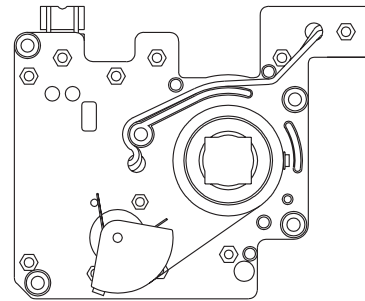

FIGURE 3. Bottom View of Carrier Plate Assembly Showing Shaft and Potentiometer in Mid Travel, Ready to be Fitted to Actuator in Mid Travel.
3.1.5 Observe the range of motion available to the positioner shaft, limited by the correct running of the potentiometer quadrant wheel, driven by the stainless steel strap (see Figure 3). Fit the carrier plate/shaft assembly back into the positioner box with the shaft near mid-range, "feeling" the female square in the positioner shaft onto the male actuator square while maintaining its position near mid range. It is essential that the two shafts are correctly oriented relative to each other, since if they are 90 degrees out, the quadrant wheel can be forced too far and damage done to the drive mechanism during subsequent actuator movements. It is possible to fit the positioner correctly with the actuator square at one end of its travel, but experience indicates a high probability of mistaking the direction of movement of the actuator - hence it is strongly advised that the positioner be fitted with the actuator square at the mid-travel position, where there is no ambiguity possible.